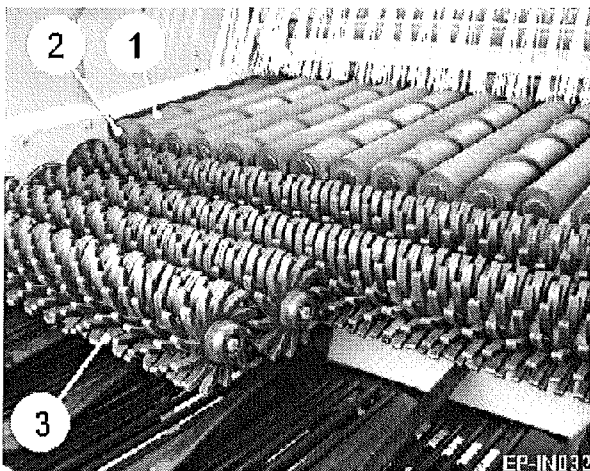

Fig 16
The Proclean stone and clod separator module has nine pairs of contra-rotating rollers (item 1, figure 16). Two hydraulic motors running in parallel drive the unit and are able to automatically reverse to clear blockages. Control for the unit is supplied electronically from the in-cab control box.
Remove the four bolts supporting the rear guard. Disconnect the linear actuator from under the unit, raise the module and adequately support it. Prise out the plastic end cap (item 2, figure 16) from the roller to be changed. Remove the roller retaining screw and washers. Slide the roller off the shaft. The rollers are a close fit and may need to be prised off or bumped free. Apply a smear of grease to the drive shaft and slide on the new roller. refit the screw and washers. Finally, refit the rear guard panel.
The spreader unit (item 3, figure 16) is made up of full width and part width star shafts. In a direct loading machine, as the crop passes off the Proclean/Galaxy unit onto the elevator web it first passes over the spreader unit. The spreader is designed to distribute the crop evenly over the full width of the elevator.